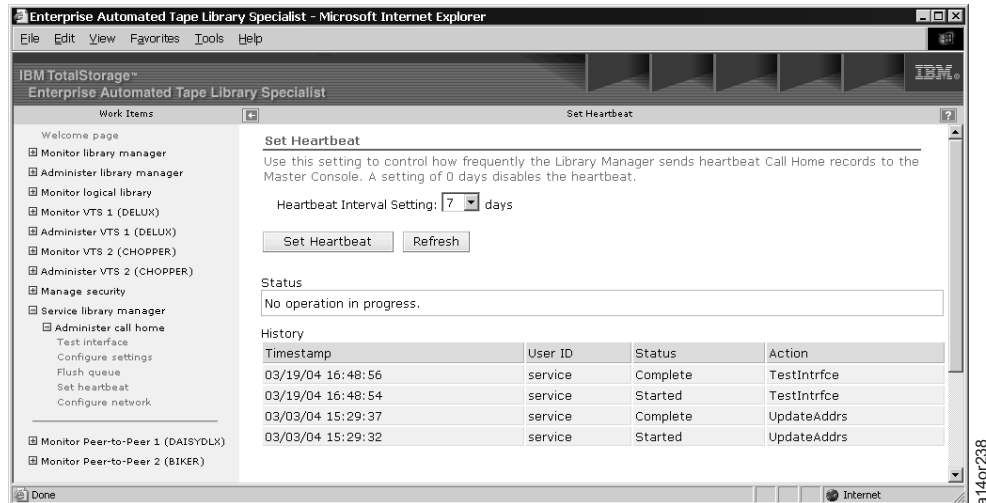

Figure 2-38. 3494 ATL Web Specialist - Set Heartbeat
1. From the “Administer call home” list on the Web Specialist screen (Figure 2-34 on page 2-28), click **Set Heartbeat** to see Figure 2-38 on page 2-31. If you are prompted for a userid and password, use the default values of **service** for the userid and **service** for the password. These values can be changed by the 3494 ATL system administrator.